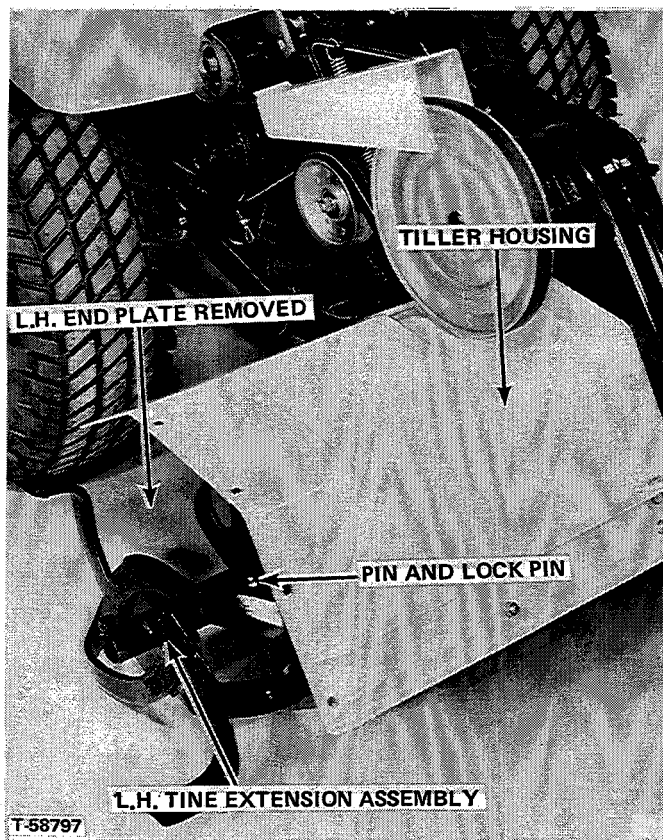

FIGURE 7
2. Remove left hand and right hand end panels from tiller housing (Figure 7).
3. Place left hand and right hand tine assemblies over ends of standard tiller tine shafts and secure with pins and lock pins (Figure 7).